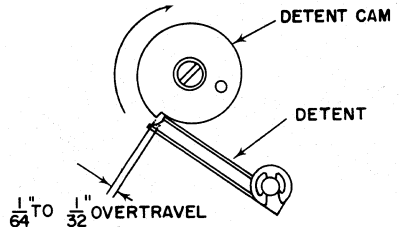

Figure 18
6. Loosen the set screws on the overtravel stop and locate it so the clutch can overtravel $1/64$ " to $1/32$ " before the stop contacts the clutch sleeve (Figure 18).